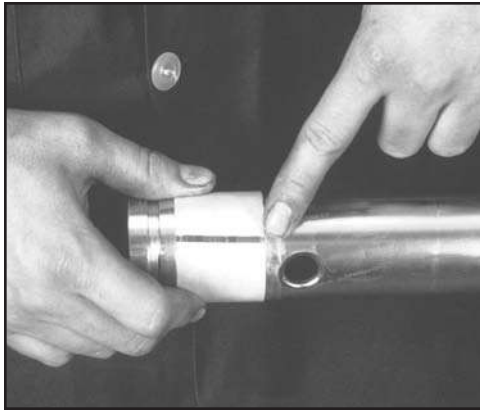

FIG. 74: SLIDE TAPE GAP
3. Make sure there is a gap of $\frac{1}{16}$ inch in the slide tapes (see Fig. 74).